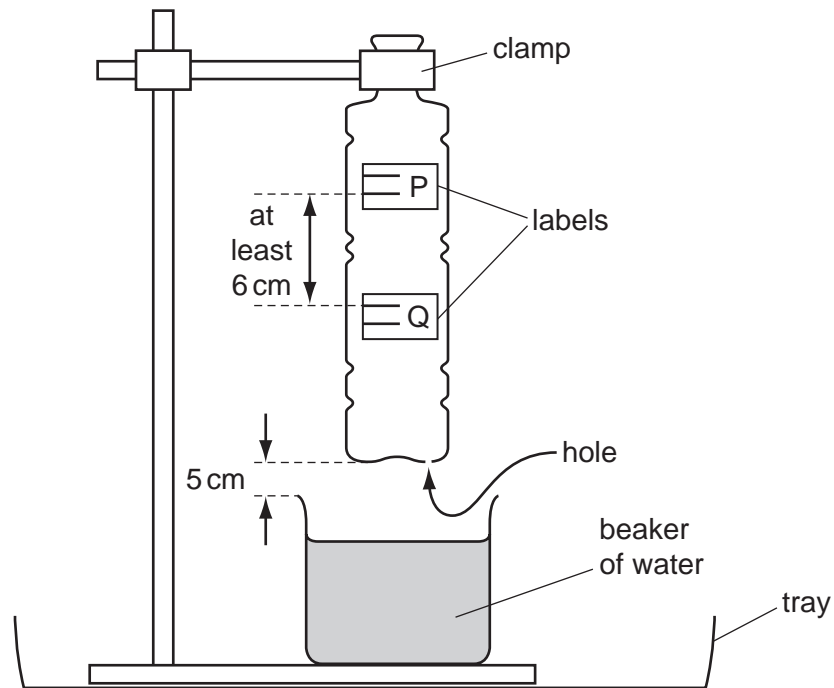

Fig. 2.1
- 1 The bottle should have a circular cross-section and its sides should be parallel for at least two 1.5 cm sections of its height. The diameters of these two sections should be approximately identical, and the two sections should be at least 6 cm apart, as shown in Fig. 2.1. A 1.5 mm diameter hole should be drilled at the **lowest point** in the base of the bottle.
- 2 Two white labels should be fixed to the parallel-sided sections of the bottle, as shown in Fig. 2.1. The upper label should be marked P and have two horizontal lines with a vertical separation of 12 mm. The lower label should be marked Q and have two horizontal lines with a vertical separation of 9 mm. The distance between the lower line on P and the upper line on Q should be at least 6 cm.
- 3 The apparatus should be assembled as in Fig. 2.1.